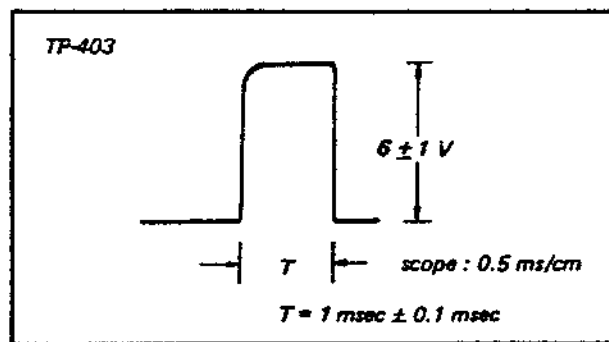

Fig. 6-10. Delay multivibrator adjustment (REC mode)
Adjust for: A pulse width of 1 msec. See Fig. 6-10.
3. Adjust R413 to obtain the pulse width (T) of 1 msec as shown in Fig. 6-10.